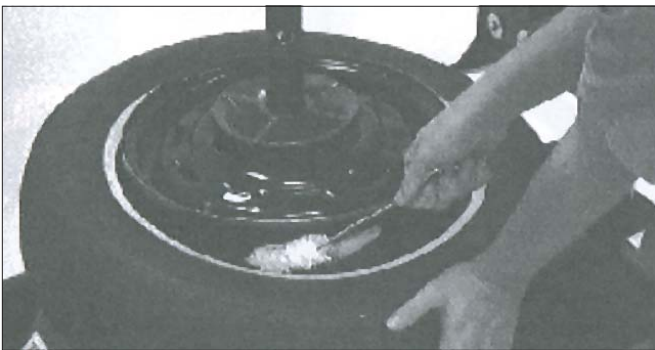

Figure 5 - Lubricate Tire Beads
**7.** Once the tire beads have been loosened from the bead seat of the wheel, lubricate the beads liberally with rubber lubricant (fig. 5).